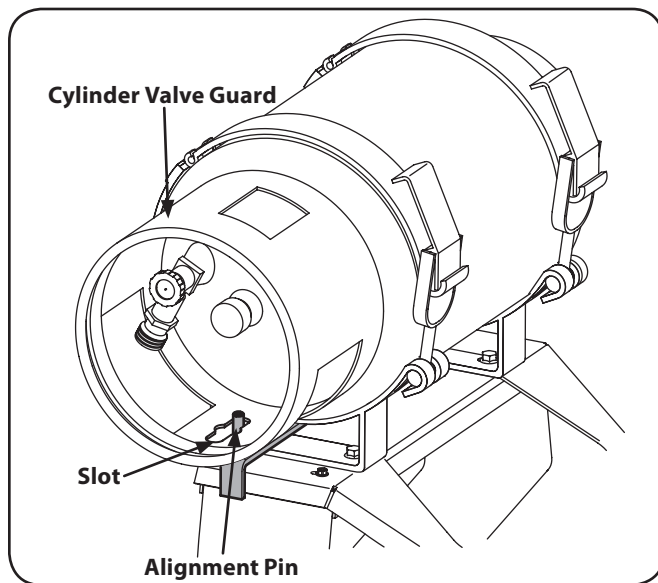

Figure 3-3
1. Open the straps and carefully place the LPG tank into the straps with the cylinder valve guard towards the left. Be sure that the alignment pin fits into the slot on the bottom of the cylinder valve guard. See Fig. 3-3.